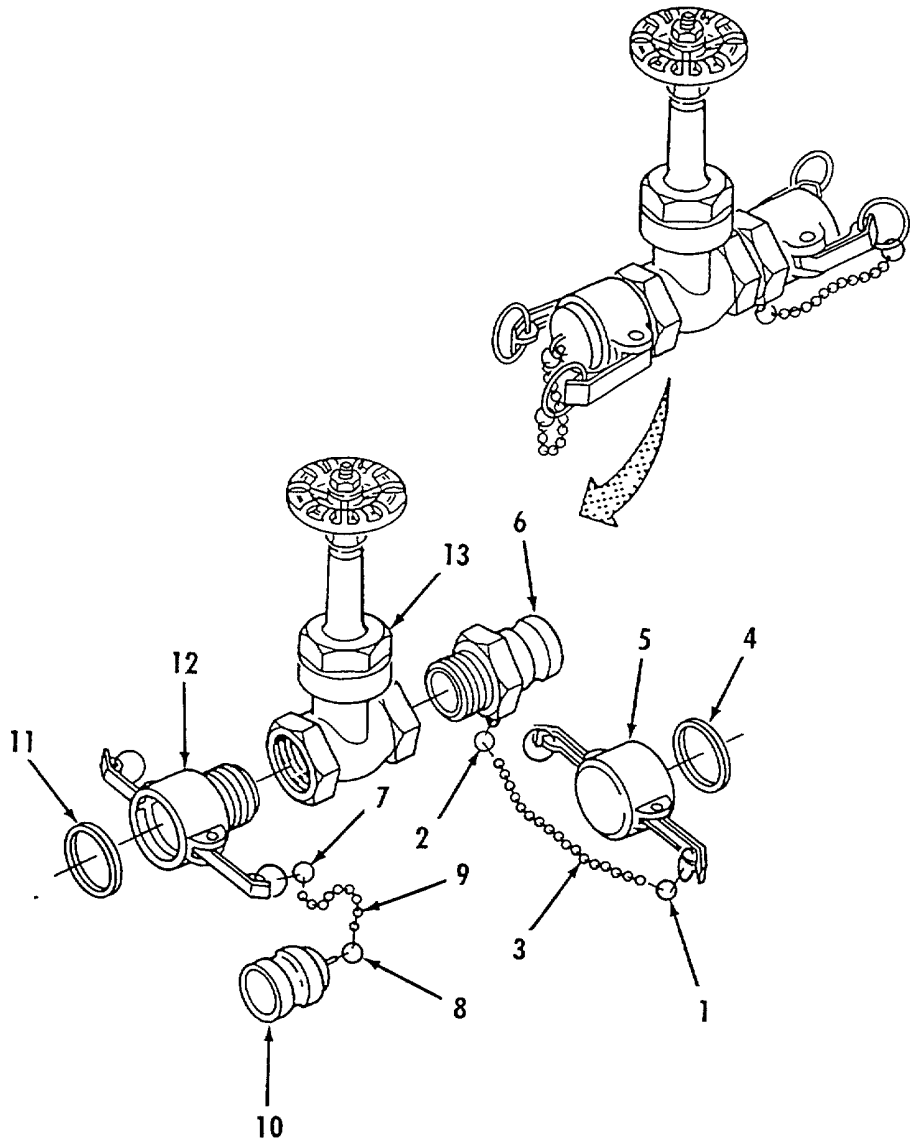

Figure 4-15. Valve Section Repair.
- a. Disassembly. Refer to figure 4-15.
- (1) Disconnect split rings (1 and 2) and remove chain (3).
- (2) Disconnect dust cap (5) from male coupling half (6).
- (3) Remove gasket (4) from dust cap (5).
- (4) Disconnect split rings (7 and 8) and remove chain (9).
- (5) Disconnect dust plug (10) from female coupling half (12).
- (6) Remove gasket (11) from female coupling half(12).
- (7) Place gate valve (13) in vise.
- (8) Remove male coupling half (6) and female coupling half (12) from gate valve (13).
- d. Assembly. Refer to figure 4-15.
- (1) Apply thread sealant to male threads of male coupling half (6) and female coupling half (12).